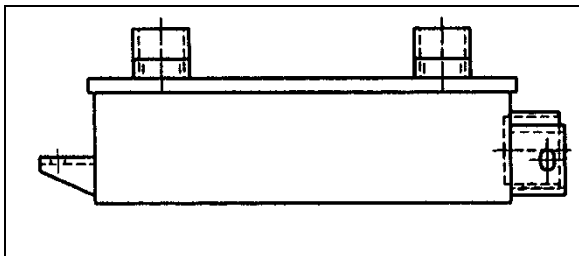

FIGURE 7: COOLER WITH RETARDER 07073
2. Disconnect the two transmission hoses from oil cooler. Cover hose ends and fittings to prevent fluid contamination (Figure 7).